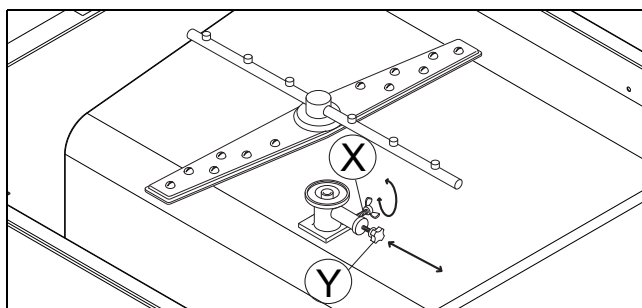

Figure 19 Wash water pressure adjustment
- unscrew the wing nut "X" (Figure 19);
- press the limiting valve "Y" (Figure 19) inward to reduce the water pressure in the lower wash arm and thus increase the water pressure in the upper wash arm, so that the items remain in their position.
- retighten the wing nut "X" (Figure 19).
- remove the limiting valve "Y" (Figure 19);